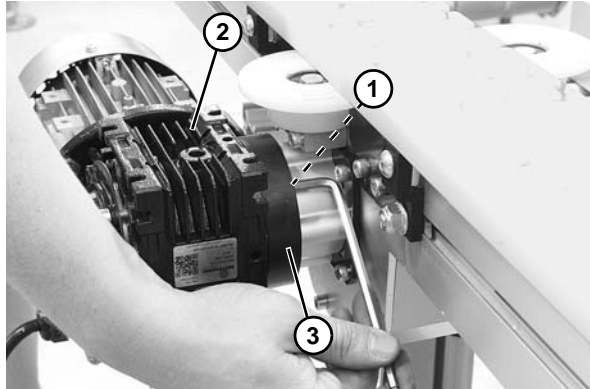

Figure 141
1. Remove four socket head screws (**Figure 141, item 1**). Remove drive package (**Figure 141, item 2**) from drive motor mounting bracket (**Figure 141, item 3**).